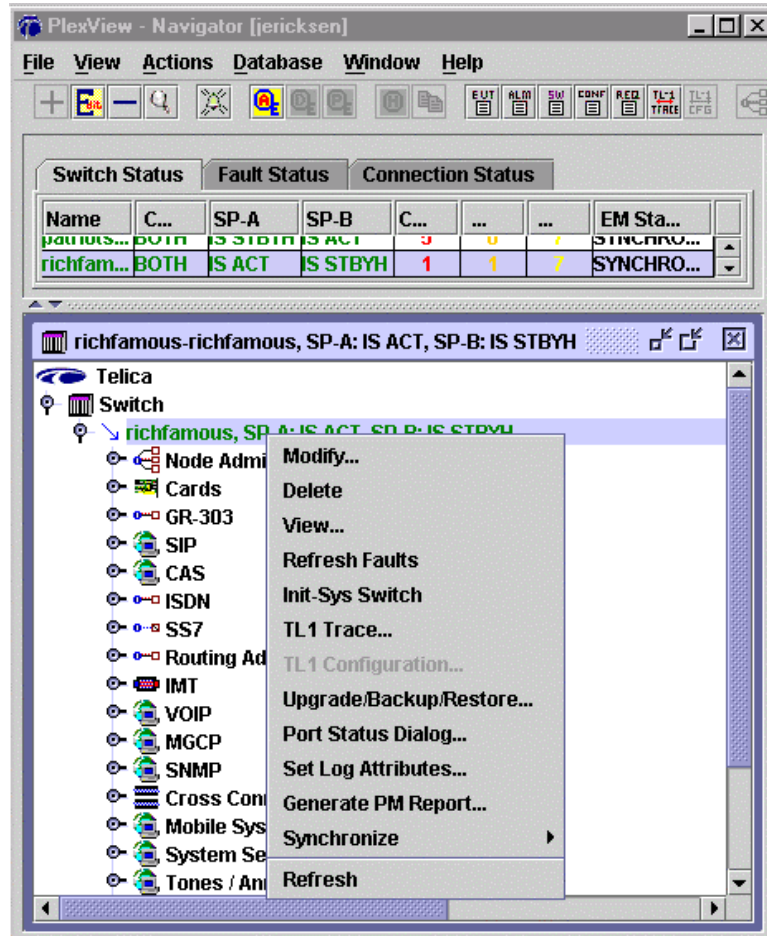
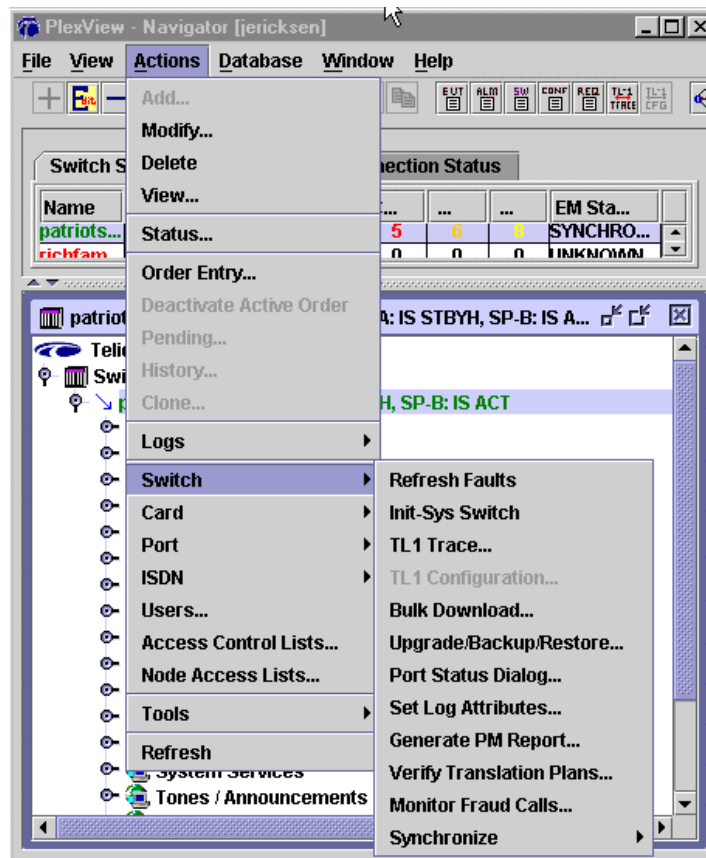
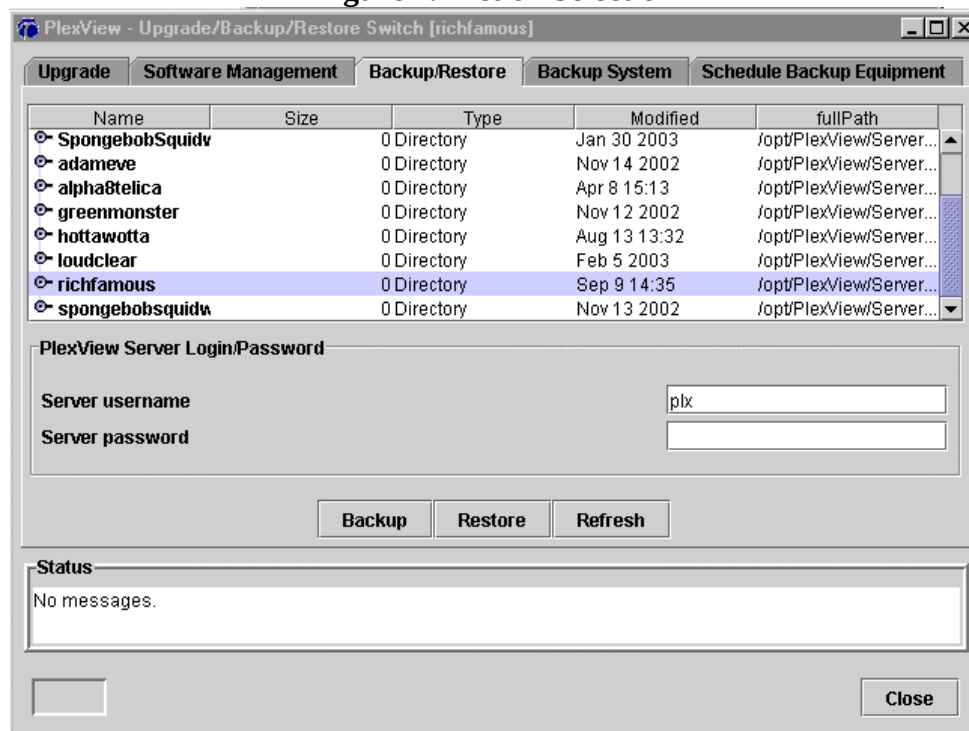

Figure 1. Right-clicking the Switch Name
Figure 2. Action Selection
Figure 3. Backup and Restore
4. Backup the system configuration by right-clicking the switch name and selecting *Upgrade/Backup/Restore* as shown in Figure 1 or select *Actions* at the top of the screen, select *Switch* and then *Upgrade/Backup/Restore* as shown in Figure 2.
5. In the resulting screen, select the *Backup/Restore* tab as shown in Figure 3. Select the switch you wish to back up and ensure the *Server username* and *Server password* are correct. Then select *Backup*. When the confirmation screen appears, click *Yes*.
7. Right-click the switch name and select *Upgrade/Backup/Restore* as shown in Figure 1 or select *Actions* at the top of the screen, select *Switch* and then *Upgrade/Backup/Restore* as shown in Figure 2. In the resulting screen, select the *Backup/Restore* tab as shown in Figure 3. Select the switch you wish to back up and ensure the *Server username* and *Server password* are correct. Then select *Backup*. When the confirmation screen appears, click *Yes*.
10. Restore the saved configuration file to the Plexus 9000 by right-clicking the switch name and selecting *Upgrade/Backup/Restore* as shown in Figure 1 or select *Actions* at the top of the screen, select *Switch* and then *Upgrade/Backup/Restore* as shown in Figure 2.
11. In the resulting screen, select the *Backup/Restore* tab as shown in Figure 3. Select the switch you wish to back up and ensure the *Server username* and *Server password* are correct. Then select *Restore*. When the confirmation screen appears, click *Yes*.